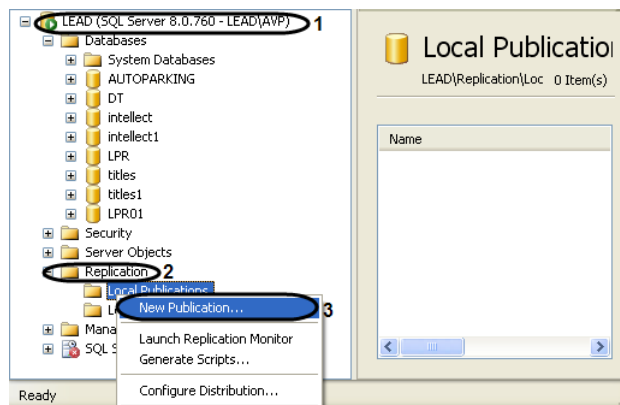

Fig. 9.2-1 New publication
1. Connect to Publication server in the Microsoft SQL Server Management Studio, and then open the server node (Fig. 9.2-1).
2. Open «Replication» folder and then click with a right mouse button over the «Local Publications» folder (Fig. 9.2-1, 2).
3. Select the point «New Publication» in the opened contextual window (Fig. 9.2-1, 3).